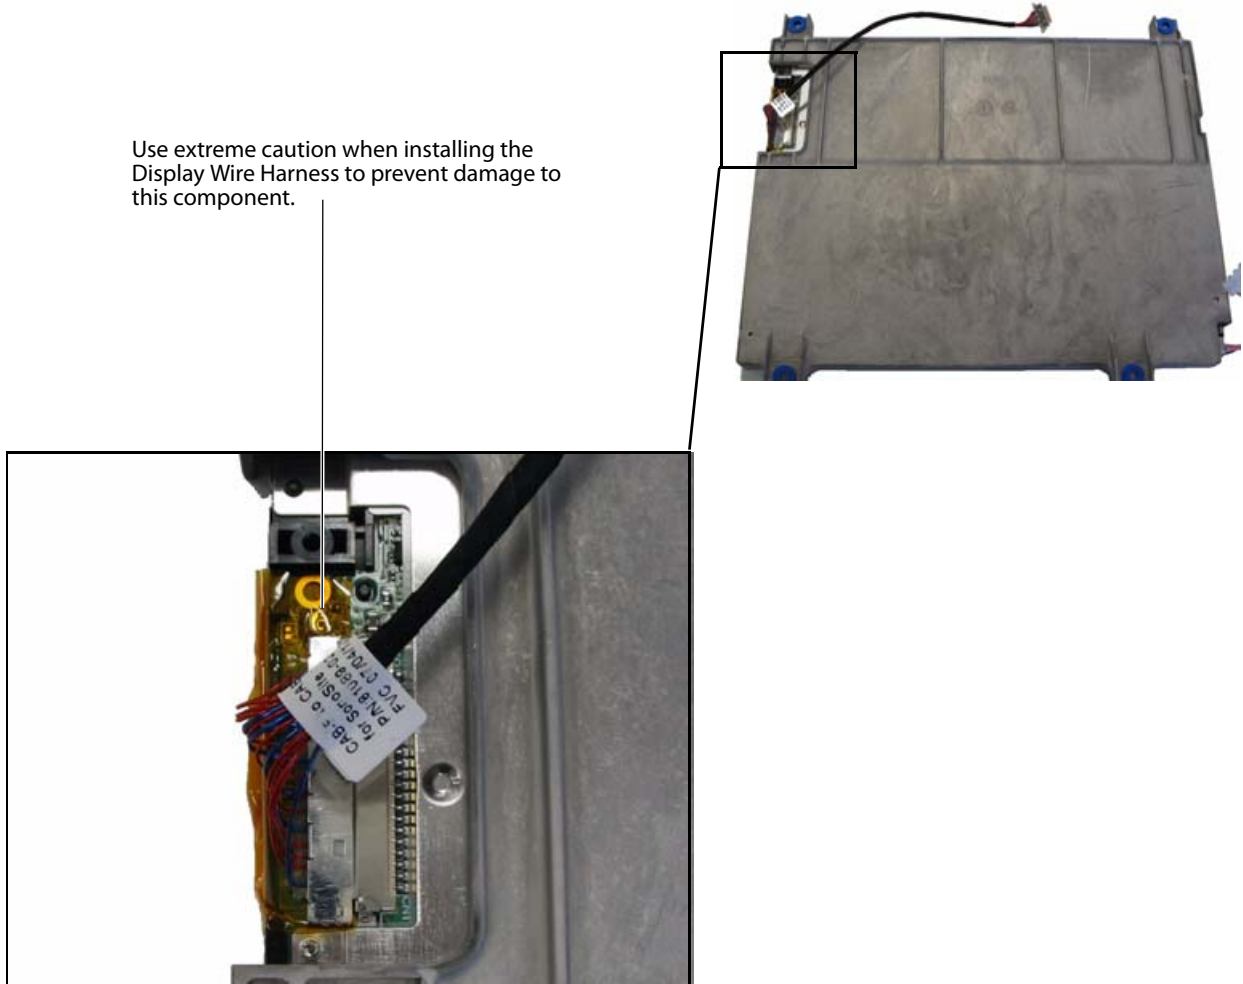

Figure 4.29 Display Wire Harness Installation
- 5 Reconnect the Display Wire Harness as shown in Figure 4.29.